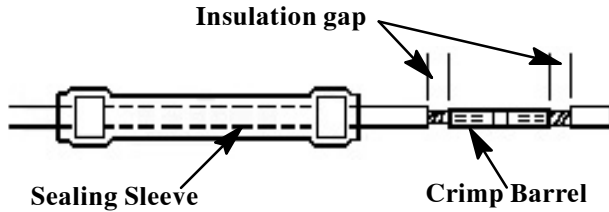

Figure 3. Correctly Installed Crimp Barrel
- (1) Indent centered on splice barrel.
- (2) Indent in line with barrel.
- (3) Barrel not cracked.
- (4) Wire cannot be pulled out of splice.
(5) (5). Gap of 1/32 to 1/16-inch for wire gages 12 thru 26, exists between crimp barrel and wire insulation (Figure 3).
(5) Gap of 1/32 to 1/16-inch for wire gages 10 thru 26, or 1/16 to 1/8-inch for wire gages 6 and 8 exists between crimp barrel and wire insulation (Figure 3.).